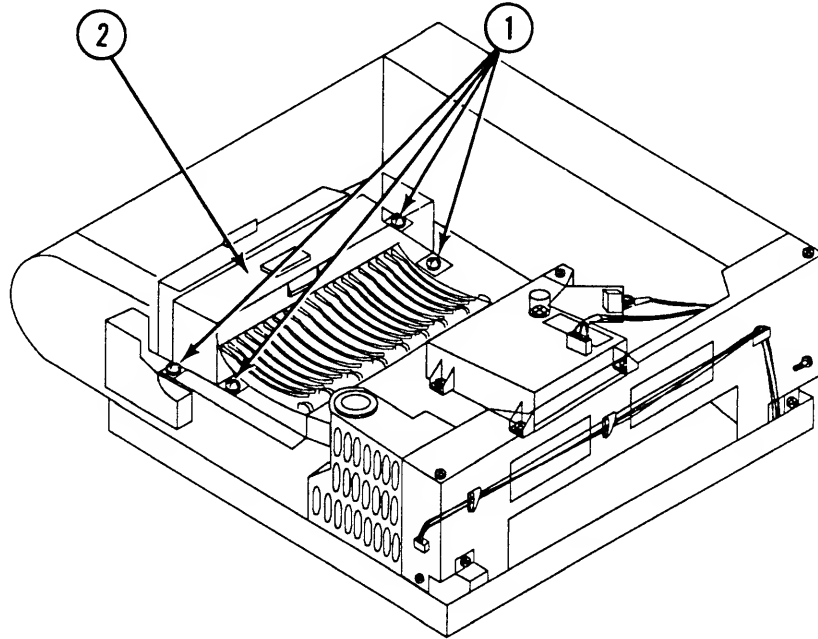

FIGURE 8
2. Remove the four Phillips screws (Figure 8, #1) that secure the fuser assembly (Figure 8, #2) to the chassis.
2. Replace the four fuser assembly screws (Figure 8, #1).